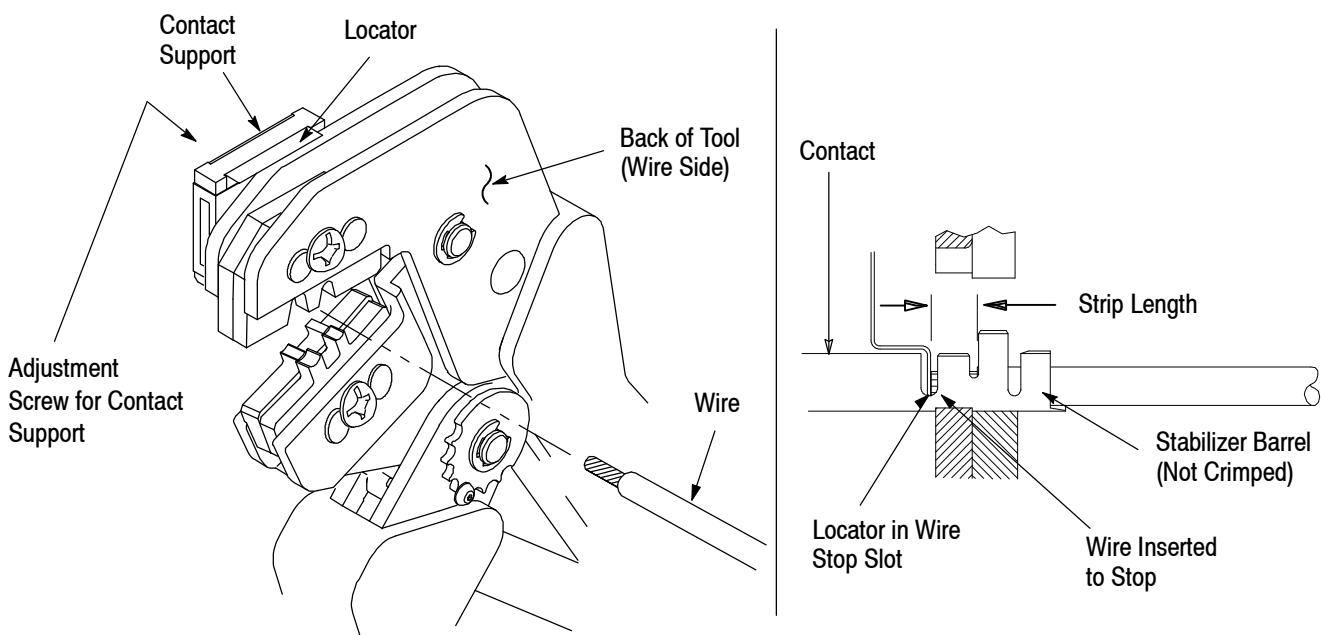

Figure 3
4. CONTACT SUPPORT ADJUSTMENT (Figure 3)**NOTE**
Refer to the table in Figure 1 and select wire of the specified size and insulation diameter. Strip the wire to the length indicated in Figure 1, taking care not to nick or cut wire strands. Select an applicable contact and identify the appropriate crimp section according to the wire size markings on the tool. Refer to Figure 3 and proceed as follows:
3. Position the contact so that the mating end of the contact is on the locator side of the tool, and so that the open “U” of the wire and insulation barrels face the top of the tool. Place the contact up into the nest so that the movable locator drops into the slot in the contact. Refer to Figure 3. Butt the front end of the wire barrel against the movable locator.
5. Insert stripped wire into contact insulation and wire barrels until it is butted against the wire stop, as shown in Figure 3.
NOTE The crimped contact may stick in the crimping area, but the contact can be easily removed by pushing downward on the top of the locator (see Figure 3).
- Revision to figure 3 to illustrate the contact stabilizer; and